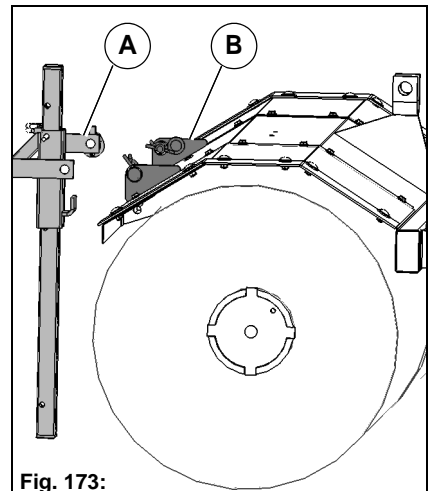

Fig. 173:
1. Insert the support **Fig. 173-A** (optional) in the front holder **Fig. 173-B**.